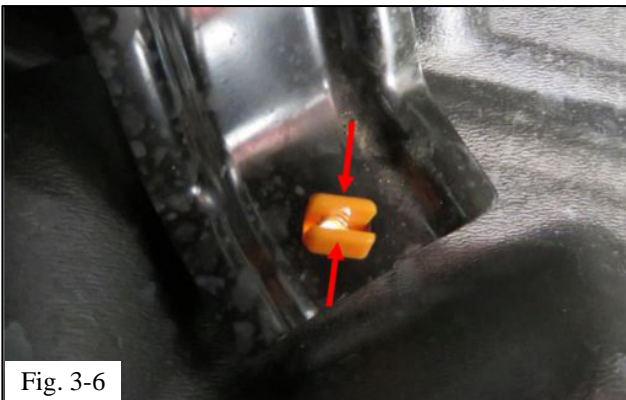

Fig. 3-6
- (1) To remove the orange clip, squeeze the legs of the clip together and push downward (Fig. 3-6).